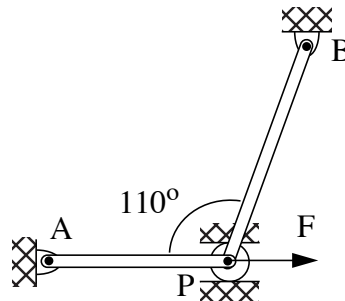

Fig. P7.7
7.7 The roller at P shown in Fig. P7.7 slides in the slot due to the force $F = 20\text{ kN}$. Both bars have a cross-sectional area of $A = 100\text{ mm}^2$ and a modulus of elasticity $E = 200\text{ GPa}$. Bar AP and BP have lengths of $L_{AP} = 200\text{ mm}$ and $L_{BP} = 250\text{ mm}$ respectively. Determine the axial stress in the member AP by virtual displacement method.